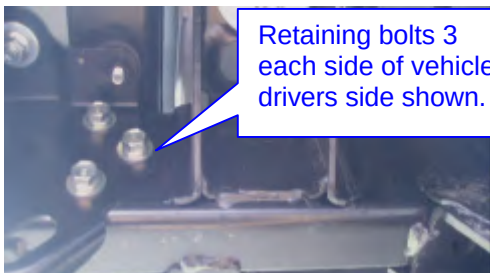

Fig 3
- Remove & discard 6 x M 10 retaining bolts that hold bumper irons the chassis rails see fig 3.